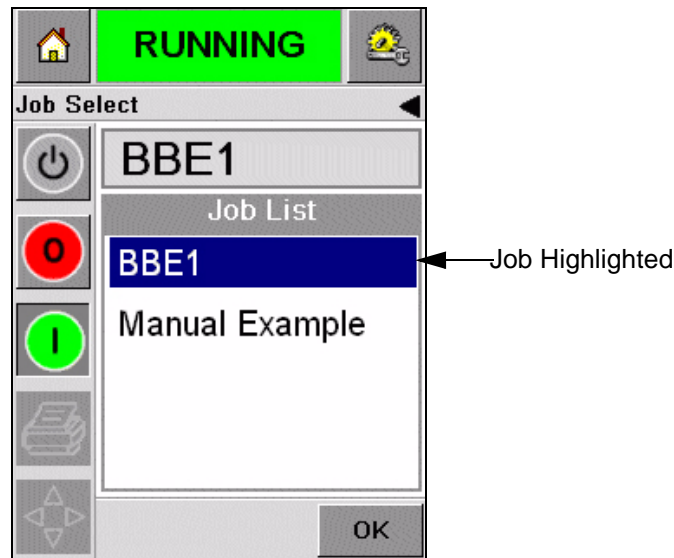
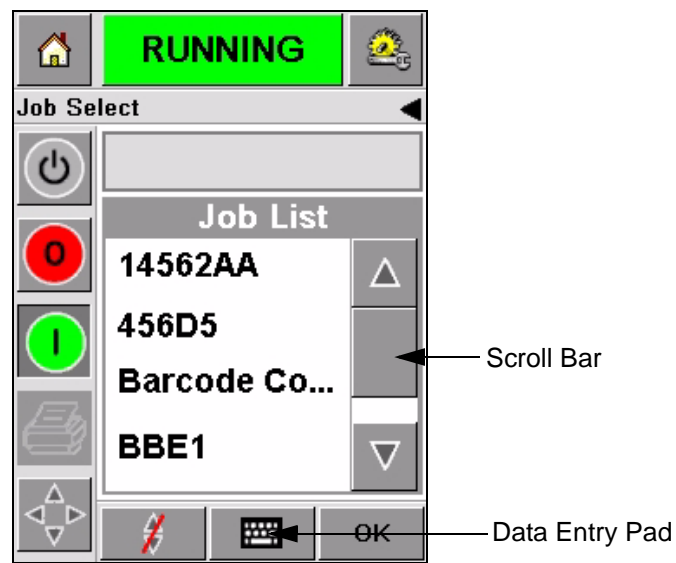

Figure 5-3: Job Selection
Figure 5-4: Scroll Bar
- 2 If the job list is short, then Touch the job name and the name of the job is highlighted (Figure 5-3).
- A scroll bar appears (Figure 5-4 on page 5-4). The scroll bar helps you move up and down the database to see all the jobs and select the required job.
- Touch the *Data Entry Pad* icon (Figure 5-4 on page 5-4). The *Job Select* screen appears with a data entry keypad (like a mobile phone). The job name is completed automatically as you begin to enter the characters in the job name until you select the required job (Figure 5-3).